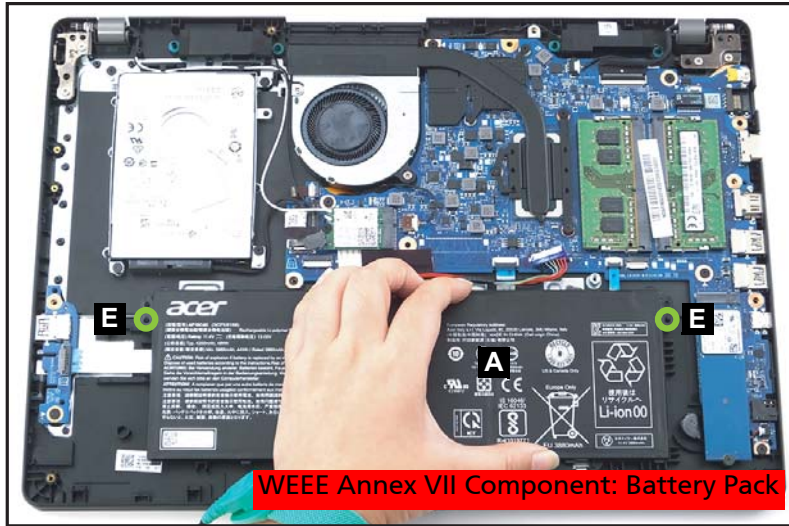

Figure 1-8. Battery Pack Removal
5. Release the battery pack from the guide pins (E) and remove the battery pack (A) from the system (Figure 1-8).